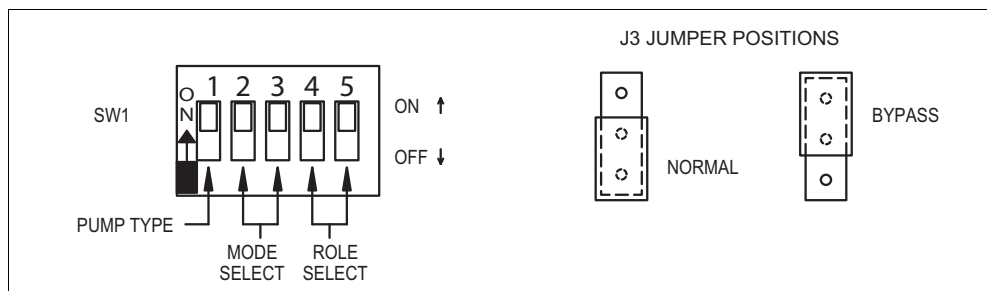

Figure 9. Dip Switch SW1 and Bypass Jumper J3
2. Place the Bypass Jumper in the Bypass Position (Figure 9)
3. Set the five Motor Type Programming DIP switches (Figure 9) to the positions indicated in Table 5 for your Motor Type.
10. The unit must be calibrated every time the Motor Type programming is performed even if the Motor Type does not change. Set the five DIP switches to the desired pump type and mode / role select configuration (see Figure 9). NOTE: The unit will not calibrate if a Motor Type has not been programmed.
Each controller must have its duty established through the dip switch bank labeled SW1 on the circuit board (Figure 9).